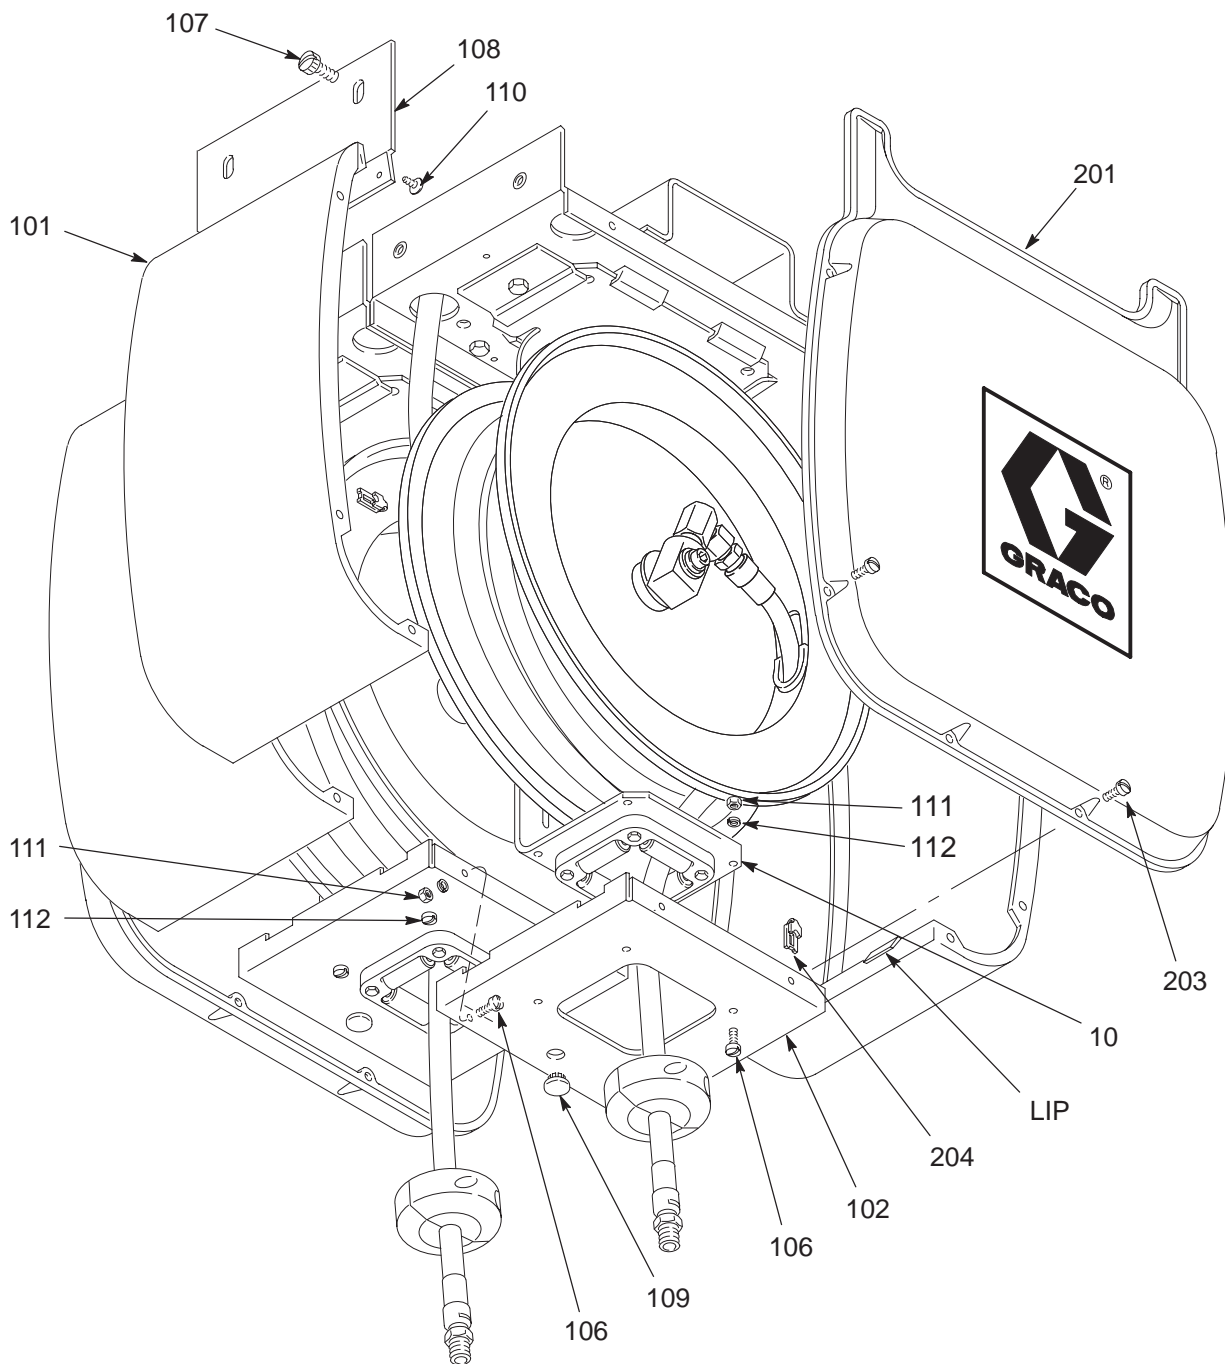

Fig. 5
Installing the Hose Reel Enclosures (See Fig. 5)
1. Secure the hose reel cap (102) to the hose reel support (10) using the screws (106), lockwashers (112), and nuts (111) as shown. See Fig. 5 for correct positioning. Push the button plug (109) into the hole in the cap (102).
3. Noting the correct position, secure the black trim plate (108) to the side panel (101) using the machine screws (110) as shown.
4. Hook the lips of the side enclosures onto the cap and secure the enclosures with the thumbscrews (107).
5. Attach the end enclosures (201) using screws (203) and spring nuts (204) as shown.